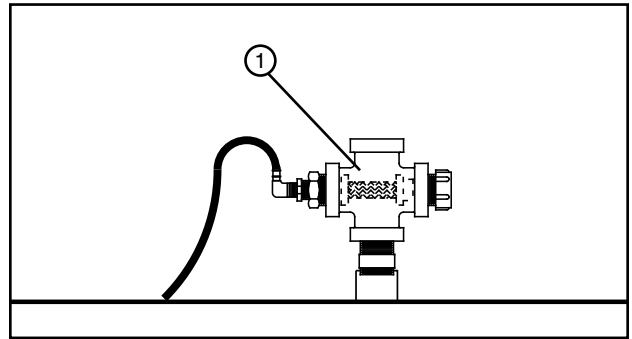

Figure 91-2 1. Cross Filter
- Clean the end gun shut off solenoid valve cross filter or optional dirty water filter. See Figures 91-2 and 91-3.